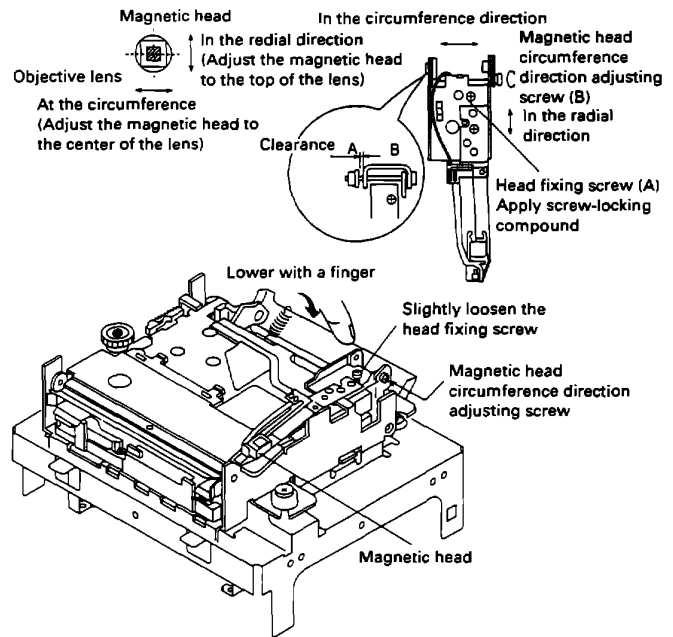

Fig. 6-3
- (1) Set transparent disc 3 for adjustment.
- (2) Lower the magnetic head up shift arm with your hand, and raise the magnetic head.
- (3) Looking at the unit from the top, adjust the magnetic head to the top of the optical pickup objective lens.
- In the radial direction: Slightly loosen the head fixing screw (A), and move the magnetic head fixture so that the head fits the top of the pickup objective lens.
- In the circumference direction: Rotate the magnetic head circumference direction adjusting screw (B), and adjust so that the head is at the top of the objective lens.
- (4) Check that there is space as shown in Fig. 6-3, and check that the magnetic head moves up and down smoothly.
- (5) After adjusting, apply screw-locking compound to the head fixing screw (A) and the adjusted screw (B).